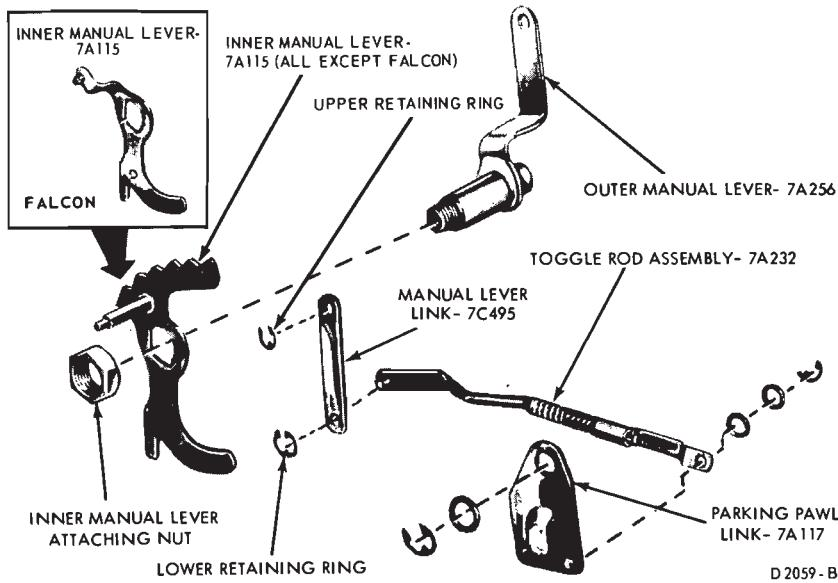

FIG. 52—Transmission Case Internal Linkage
1. Apply penetrating oil to the outer lever attaching nut to prevent breaking the inner lever shaft. On C4 automatic transmissions, remove the downshift outer lever nut and remove the downshift outer and inner levers. From inside the transmission case, remove the upper retaining ring from the manual lever link (Fig. 52). Remove the upper end of the lever link from the case retaining pin.
4. Remove the rear parking pawl link lower retaining ring, flat washer and link from the toggle rod (Fig. 52).
9. Install the outer manual lever in the case. Install the inner manual lever and attaching nut with the chamfer facing toward the lever (Fig. 52). Torque the nut to specification.